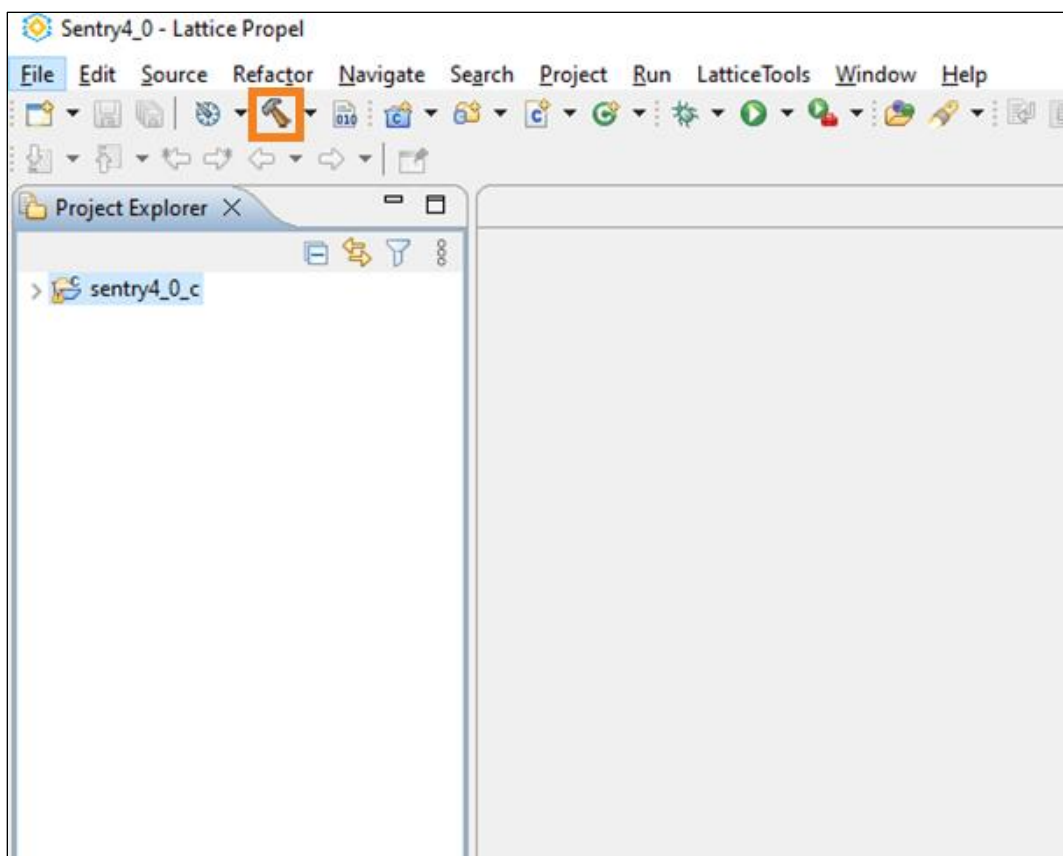

Figure 4.19. Build Firmware Project
7. Select the firmware project from the Project Explorer view and click the Build icon to build it (Figure 4.19).
10. Select the firmware project in the Project Explorer view and click the Build icon to build it (Figure 4.19).